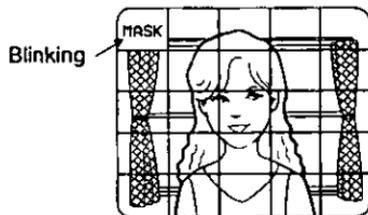

Fig. 55
- To mask this area, press the Set Switch (11). The word "MASK" appears in this area as shown in Fig. 55.